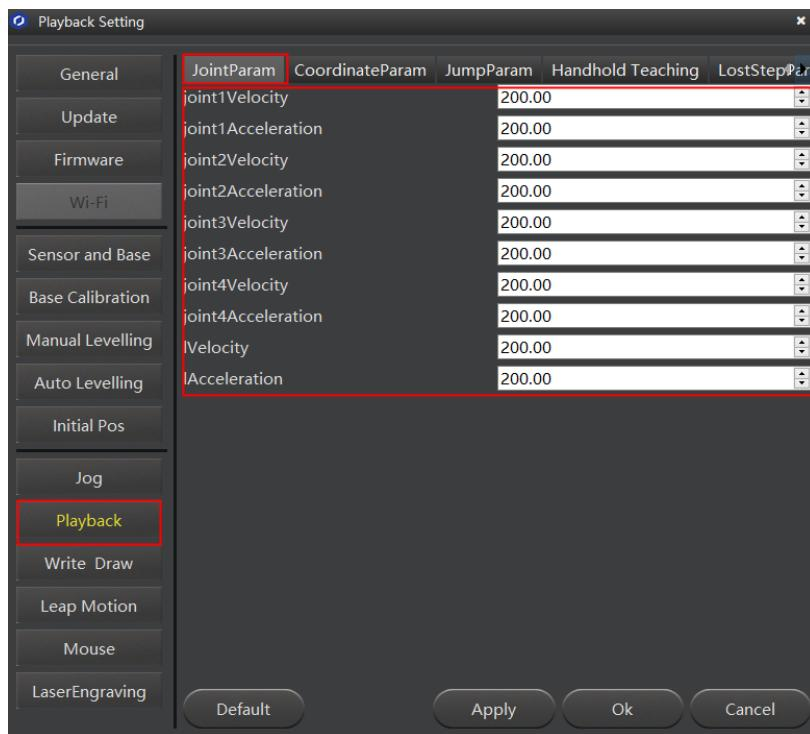

Figure 5.31 Set the speed and acceleration of the playback
**JointParam/CoordinateParm** to adjust the speed and acceleration of the Cartesian or Joint coordinate system, as shown in Figure 5.31. For details, see Table 5.10.